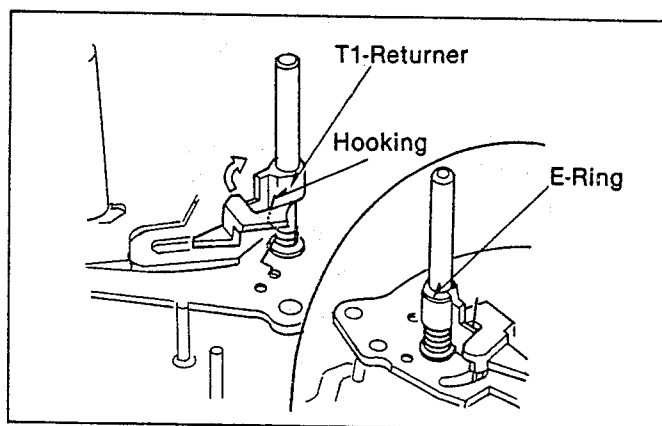

Fig. M23
- (5) Make sure of up side of T1-Returner, after that install the T1-Returner. Then insert hooked end(long side) of T1-Returner Spring in the hole of T1-Returner. Then, turn the T1-Returner to clockwise. Finally, insert the E-ring as shown in Fig.M23